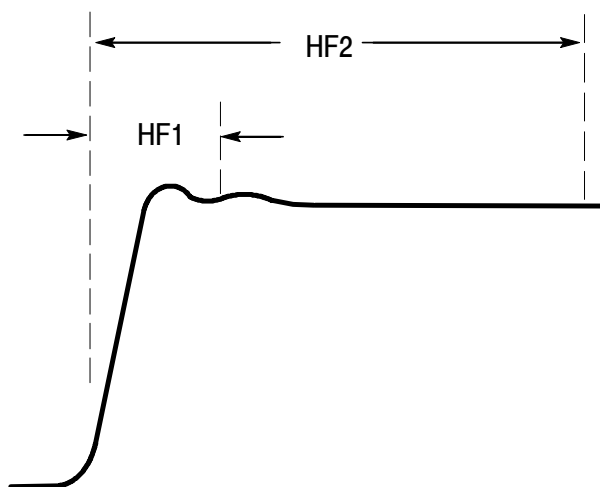

Figure 7: HF Compensation Adjustments
9. Adjust **HF1** for a square leading edge. See Figure 7.